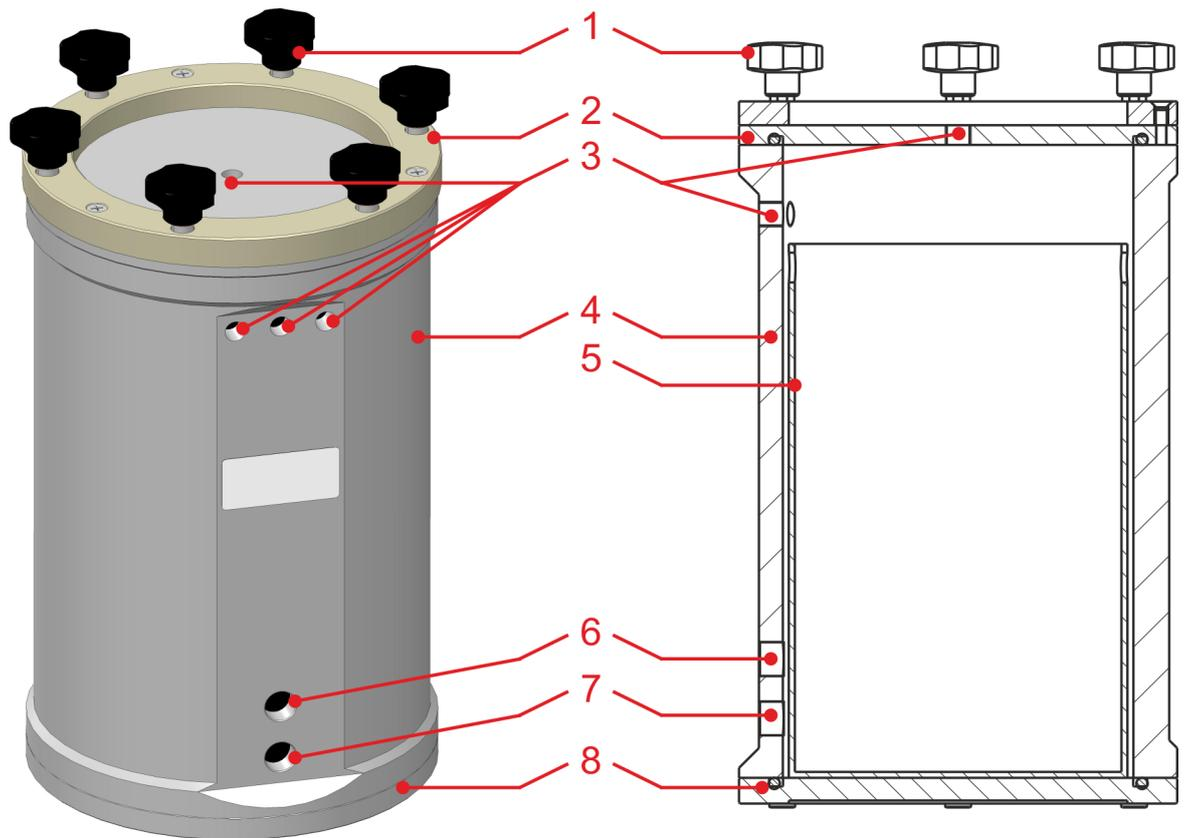

Fig. 2: Structure of the pressure vessel
The pressure vessel is equipped with four air/product connection thread boreholes G ¼" (Fig. 2, item 3). One of the connection threads is placed at the centre in the lid, the remaining three in the upper area of the vessel jacket.
Below the three G ¼" connection threads there are two M 18 x 1 threaded connections (Fig. 2, item 6 and item 7) attached for supporting the capacitive sensors for empty and reserve signals.